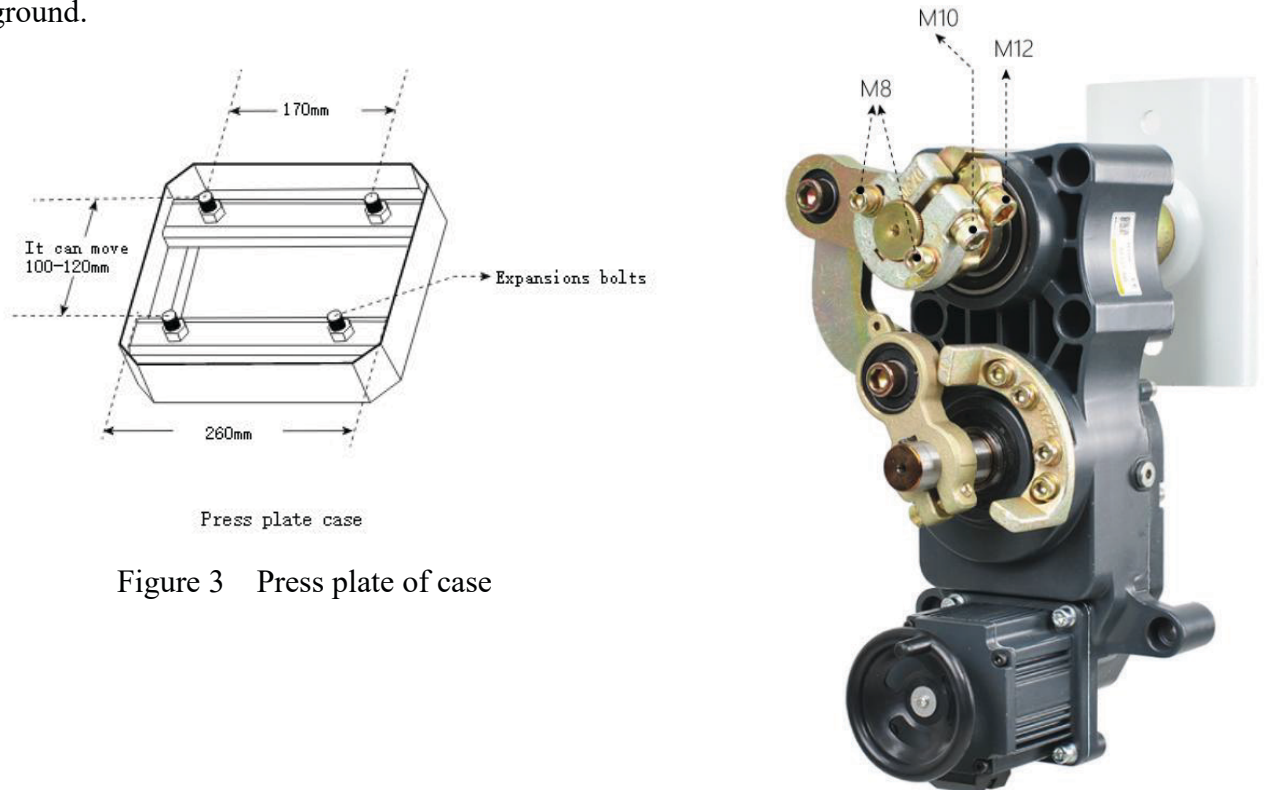

Figure 3 Press plate of case
7.1.1 Please select the correct type of barrier gate according to the specifications of the place, and then fix the barrier cabinet with expansion bolts (refer to Figure 3).